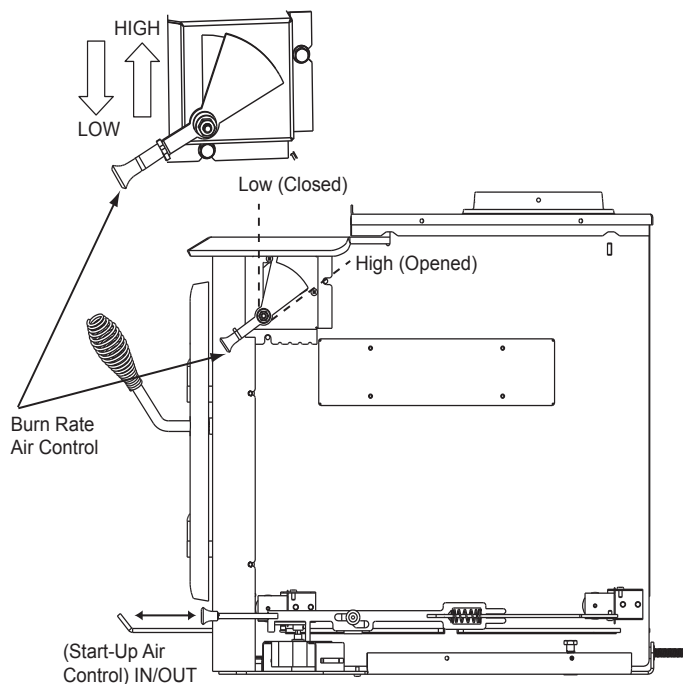

Figure 14.1 - Activating Timer
- When the control is raised all the way up it is on the High setting and when pushed all the way down it is on the Low setting (**Figure 14.1 on page 14**).